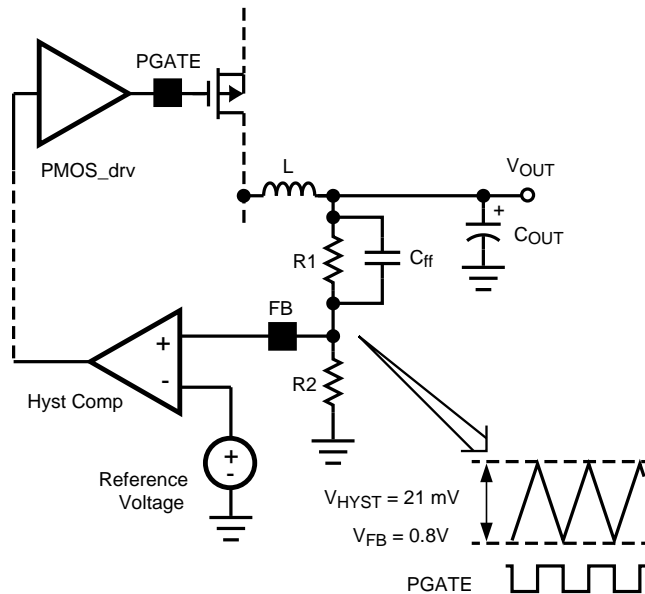

Figure 13. Hysteretic Window
The output voltage is programmed using a resistor divider between V_{OUT} and GND as shown in Figure 13. The feedback resistors can be calculated as follows:
The operating frequency and output ripple voltage can also be significantly influenced using a speed up capacitor, C_{ff} , as shown in Figure 13. C_{ff} is connected in parallel with the high side feedback resistor, $R1$. The output ripple causes a current to be sourced or sunk through this capacitor. This current is essentially a square wave. Since the input to the feedback pin (FB) is a high impedance node, the bulk of the current flows through $R2$. This superimposes a square wave ripple voltage on the FB node. The end result is a reduction in output ripple and an increase in operating frequency. When adding C_{ff} , calculate the formula above with $\alpha = 1$. The value of C_{ff} depends on the desired operating frequency and the value of $R2$. A good starting point is 1nF ceramic at 100kHz decreasing linearly with increased operating frequency. Also note that as the output voltage is programmed below 1.6V, the effect of C_{ff} will decrease significantly.